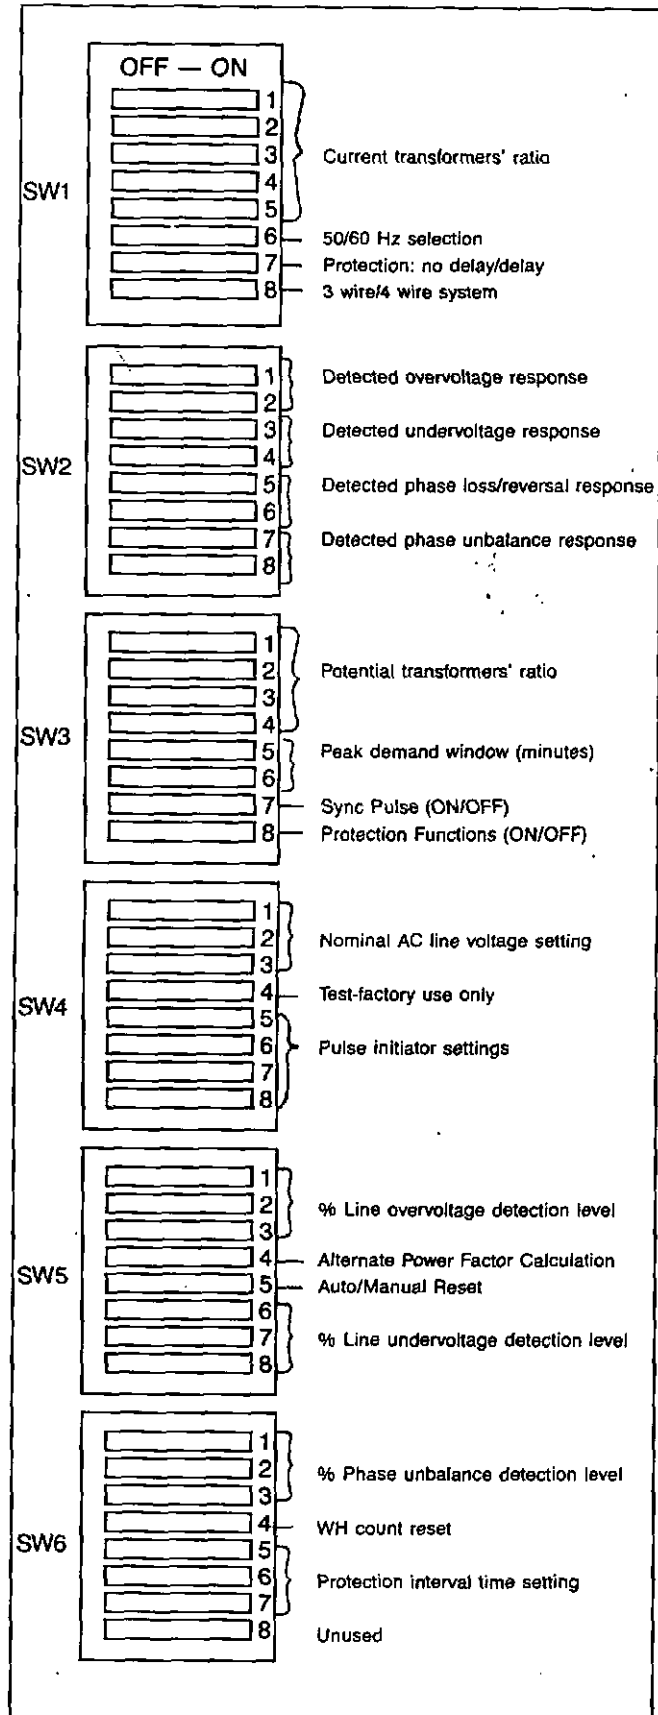

Figure 4.5 — DIP Switches — See Section 6 for programming information
**4.3 DIP Switch Settings** — The DIP switches located and accessed from the rear-right portion of the chassis must be properly set according to application requirements. Obtain the Installation Record Sheet produced specifically for the application. A blank Record Sheet is shown in the Tables 6.A, 6.C, 6.H, 6.K, 6.N, 6.Q. Note: Section 6 describes how to determine the DIP switch positions. Each of the DIP switches — SW1 thru SW6 — contains eight 2-position switches which are set in combination. (See Figure 4.5.) The switches are turned ON or OFF by sliding the switch. As you face the DIP switches, slide:
Observe the ON and OFF designations on the DIP switches shown in Figure 4.5. Always look for the OFF and ON designations on the hardware or printed circuit board to be sure you are setting the switches correctly.